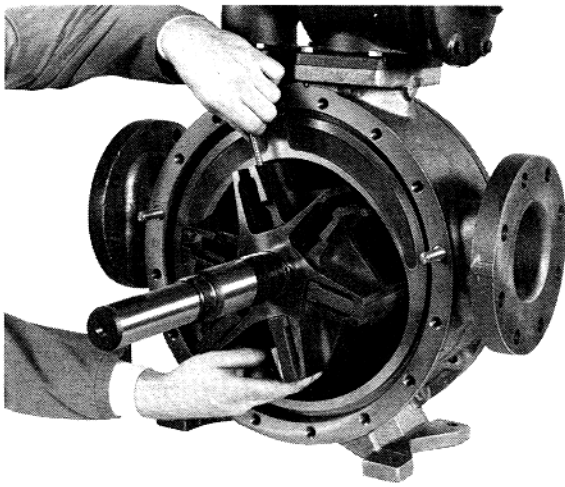

Figure 8
If the pump is connected to the system, it will be necessary to install the three bottom vanes and the pushrods while installing the rotor and shaft. To do so, partially install the rotor shaft through the bearing bore, being careful not to damage the disc face. Part of the rotor should remain outside of the casing such that the three bottom vanes (rounded edge outward) can be inserted into the rotor slots and held in place while all three push rods are inserted (see Figure 8). The rotor and shaft, with the three (3) bottom vanes installed, should then be **fully** inserted into the casing. The remaining vanes can then be installed in the top positions of the rotor. (See "Vaness" for proper installation.)